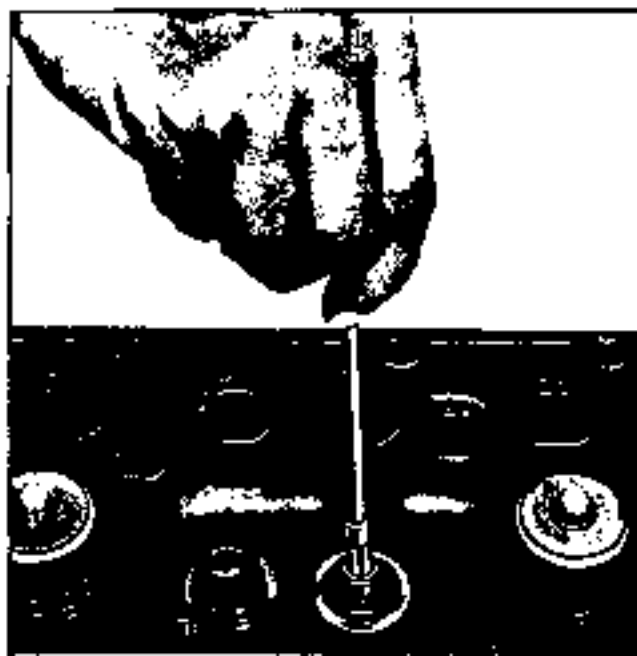

Fig. 6-28 Cleaning Valve Guide Bore
2. Thoroughly clean the valve guides using tool J 8101 (Fig. 6-28).